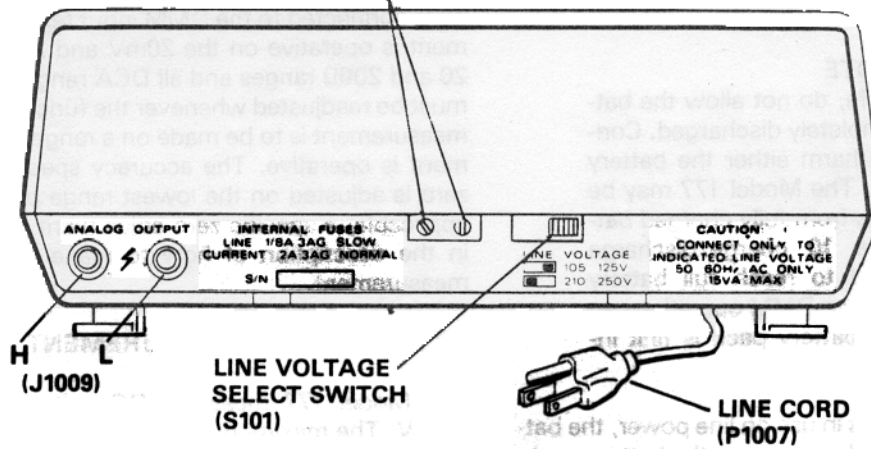
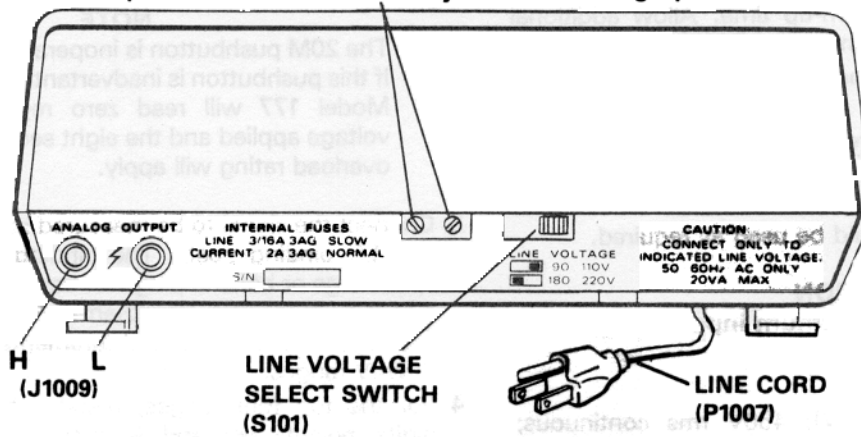

Figure 2-1. Rear View Of Standard Line Voltage Instrument
Figure 2-2. Rear View Of Optional Line Voltage Instrument
1. Set the LINE VOLTAGE switch on the back of the instrument to correspond to the line voltage available. Standard ranges are 105V to 125V and 210V to 250V AC as shown in Figure 2-1. Optional ranges of 90V to 110V and 180V to 220V AC are also available as shown in Figure 2-2. As indicated on their respective rear panels, the standard line voltage range instruments use an internal line fuse (F102) of 1/8A rating and the optional line voltage range instruments use a 3/16A fuse. See Section 5.